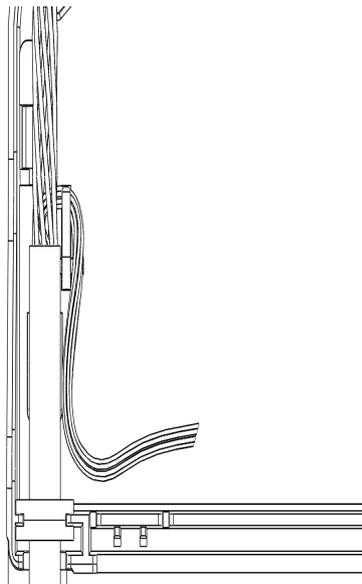

Fig. 12
3.1.7. Move aramid yarn towards the cable grommet (Fig. 12);